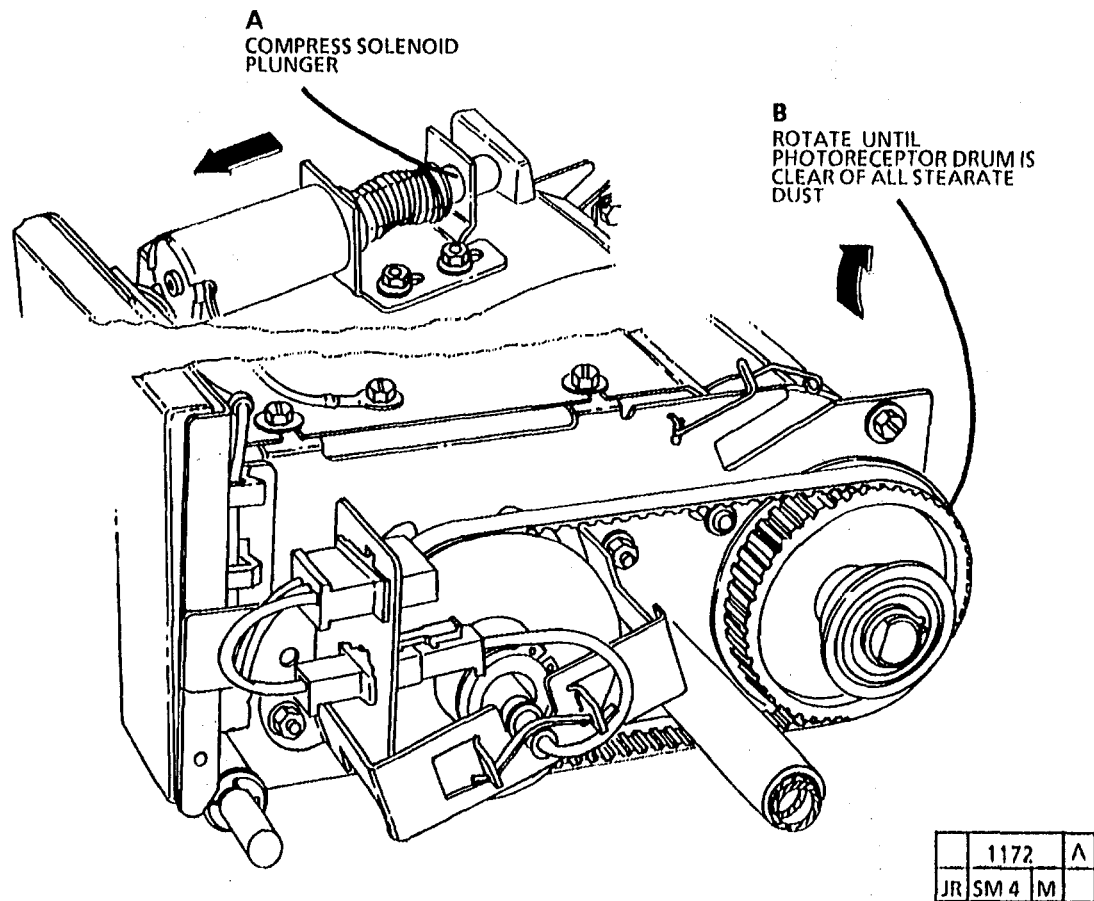

Figure 4. Remove the Stearate from the Photoreceptor Drum
4. (Figure 4): Remove the stearate from the photoreceptor drum.